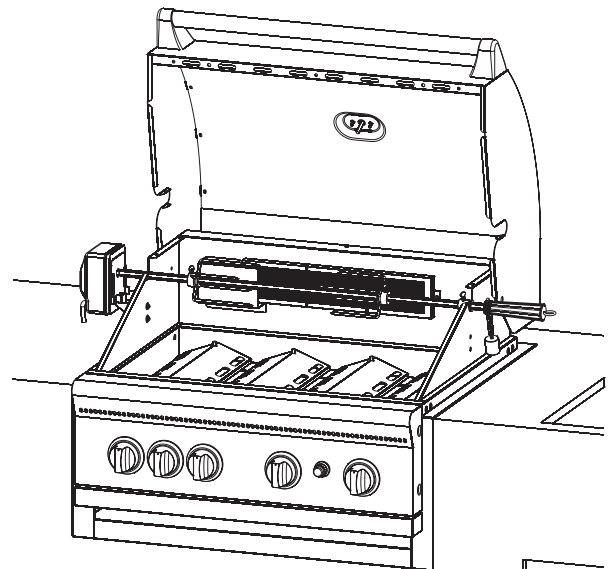

Figure 12
13. Slide a rotisserie fork onto each end of the spit. See Figure 12.
15. Slide the bushing onto threaded end of spit. Insert spit into slot of motor on left side of grill and place bushing into slot on right side of grill. Tighten thumbscrew on bushing. See Figure 12.